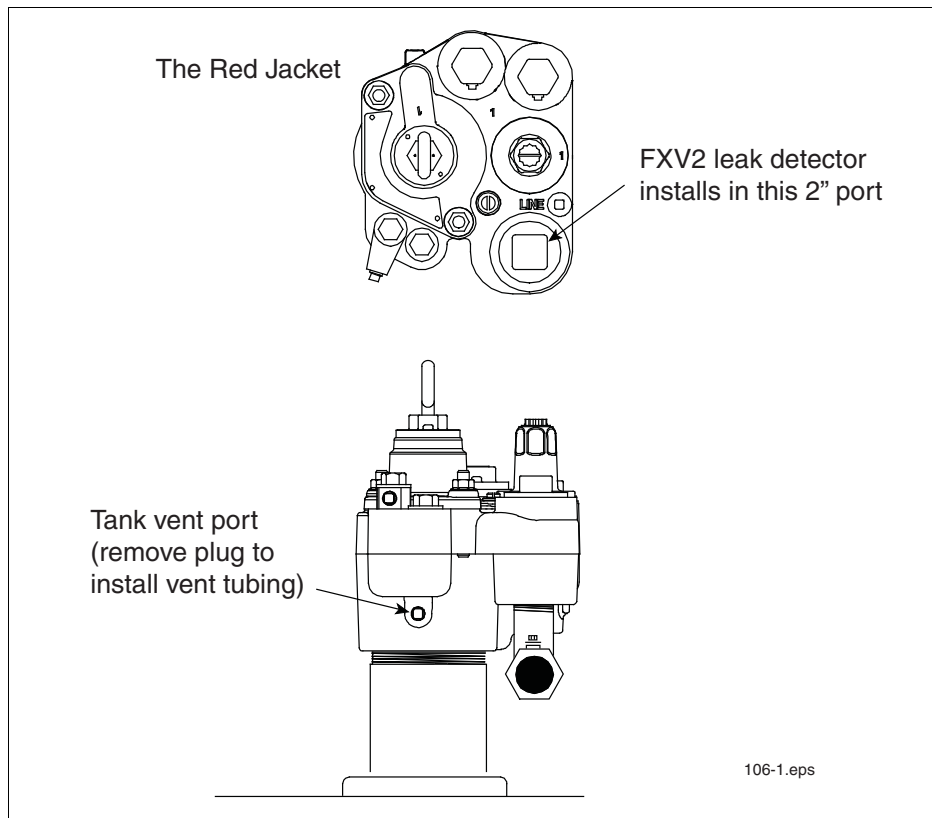
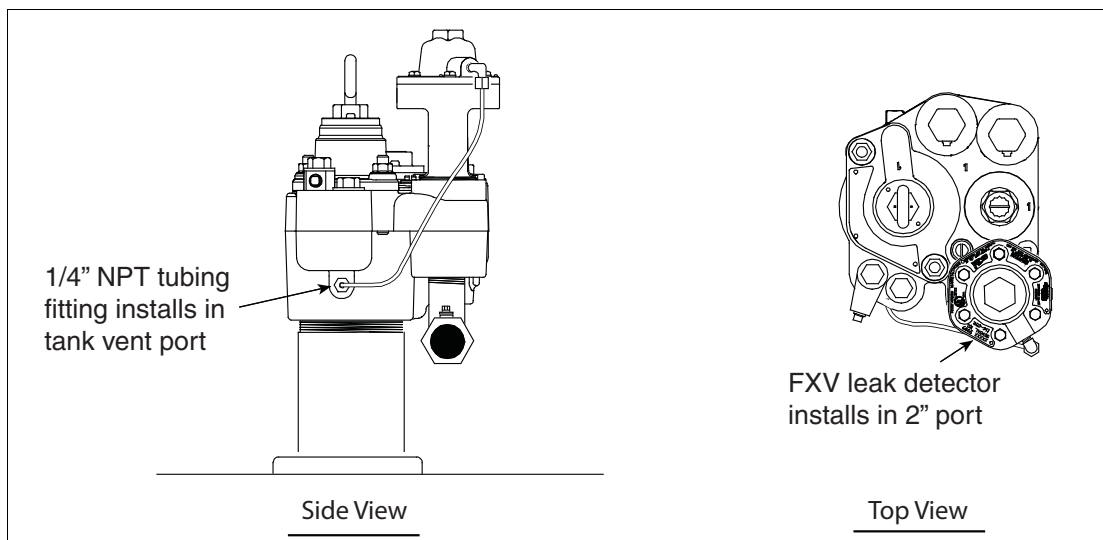
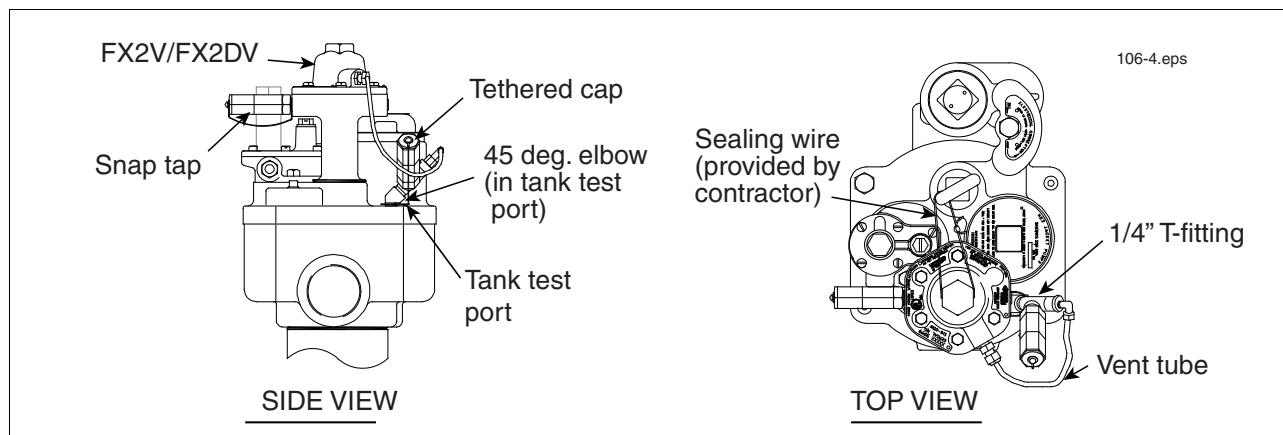

Figure 2. FXV Installation ports in The Red Jacket
Figure 3. Installing FXV in The Red Jacket pump
Figure 5. Installing FXV in the Standard pump
1. Remove the two-inch plug from the top of the Standard pump (see Figure 2 for The Red Jacket leak detector installation ports and see Figure 5 for the Standard pump). If the two-inch plug is found to be so tight that cannot be removed, the submersible should be removed from the tank and placed in a vise. Remove the functional element assembly next to the pipe plug. The plug should then come out readily if a large pipe wrench is used. Replace functional element assembly securely and replace the pump in the tank. (See Step 3 before replacing pump).
- Remove 1/4-inch pipe plug from tank test port (on 6-inch Big-Flo applications, remove the 1/4-inch pipe plug from the riser/flange assembly, for The Red Jacket pumps, see Figure 2 and for the Standard pump see Figure 5).
- Remove 1/4 inch pipe plug from tank test port, see Figure 2 for The Red Jacket pump and Figure 5 for the Standard pump.
- a. Remove 1/4-inch pipe plug from tank test port (on 6-inch Big-Flo applications, remove the 1/4-inch pipe plug from the riser/flange assembly, for The Red Jacket pumps see Figure 3 and for the Standard pump see Figure 5).
The top cover on the Red Jacket leak detector is designed to accommodate a sealing wire which can be used to discourage tampering of the unauthorized removal of leak detector. (see Figure 5).